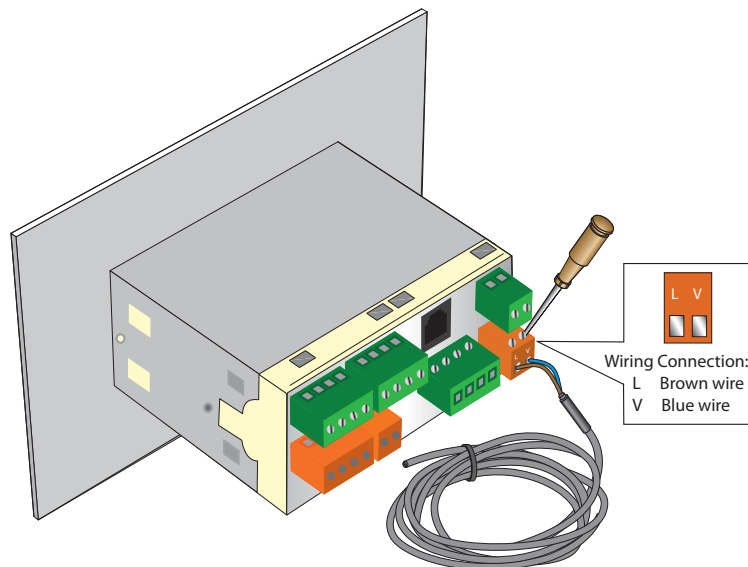

Figure 15 *High Voltage Power Supply Connections*
Connect the power supply to the monitor (1) as shown in *Figure 15*.